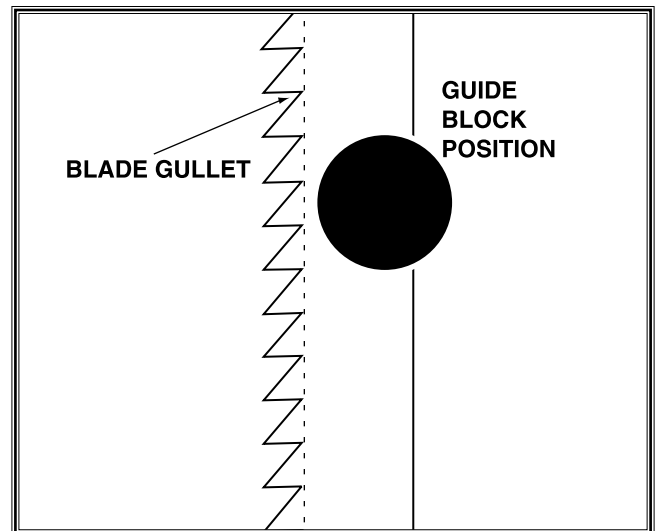

Figure 39. Guide block position on blade.
2. Set the guide blocks just behind the gullet of the teeth. **See Figure 39.** This will protect your blade from premature wear because the teeth won't run against the guide blocks.